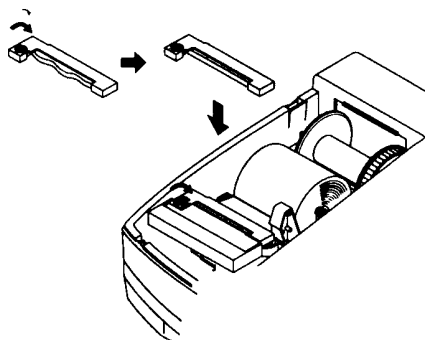

Figure 3-4. Ribbon Cassette
1. Before inserting the ribbon cassette, turn the knob (see Figure 3-4) clockwise to prevent twisting the ribbon.